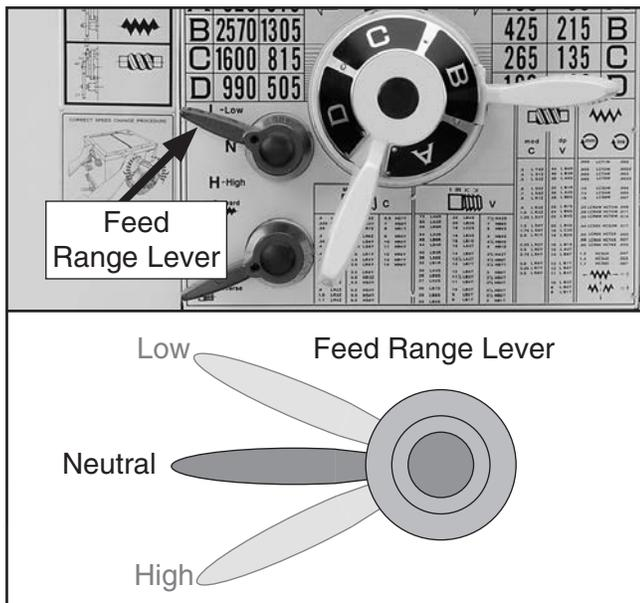

Figure 26. Feed range lever.
5. Disengage the quick-change gearbox from the drive train by moving the feed range lever to the neutral (middle) position (see **Figure 26**).